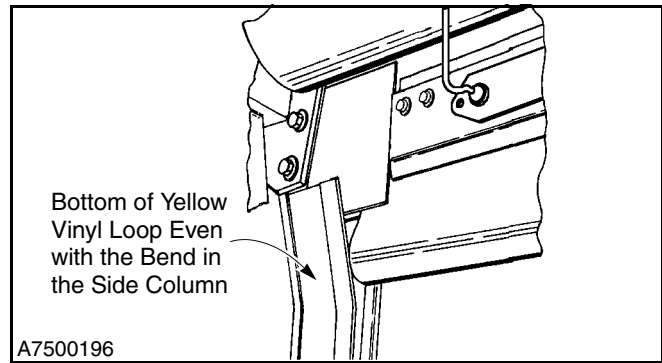

Figure 16
1. With the door in the open position, check the location of the yellow vinyl loop on the bottom bar. It should be in the position shown in Figure 16.